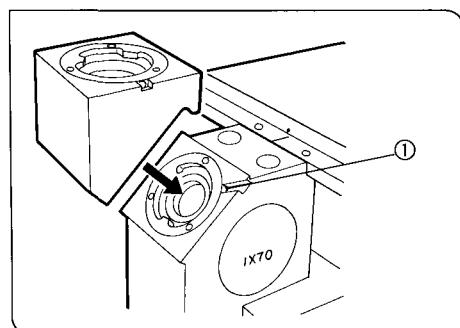
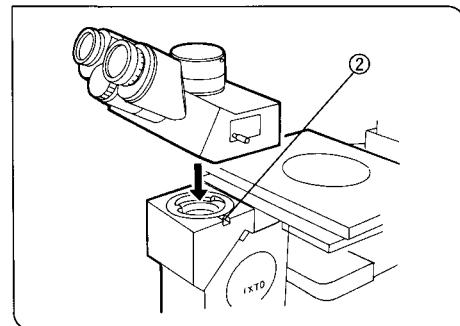

Fig. 39
Fig. 40
(Figs. 39, 40)
- Using the Allen screwdriver, loosen the observation tube clamping screw ① on the observation tube mount. (Fig. 39)
- Insert the circular dovetail mount of the intermediate tube into the observation tube mount, placing the intermediate tube so that its upper surface is flush with the microscope frame. Clamp the intermediate tube by tightening the clamping screw ①.
- Using the Allen screwdriver, loosen the observation tube clamping screw ② on the intermediate tube's observation tube mount. (Fig. 40)
- Insert the circular dovetail mount of the observation tube into the opening on the intermediate tube, placing the observation tube to point the binocular eyepieces towards the front. Clamp the observation tube by tightening the observation tube clamping screw ②.